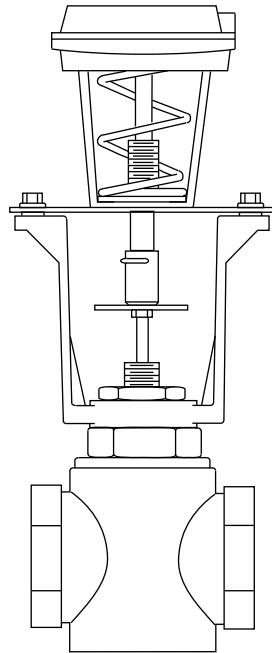

Figure-4 Typical MK-47X1 Series Actuator Using the AV-430 Valve Linkage.
7. Install the MK-47X1 actuator onto the mounting bracket, using the two self-tapping screws provided. See Figure-4 for a view of the completed assembly.
- b. Secure the actuator, using the two self-tapping screws provided. For a view of the completed assembly, see Figure-4 when an MK-47X1 actuator is used.
- b. Secure the actuator, using the two self-tapping screws provided. For a view of the completed assembly, see Figure-4 when an MK-47XX actuator is used.